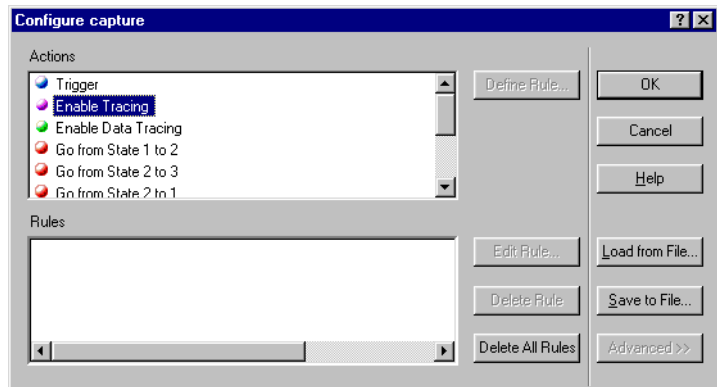

Figure 8-13 Configure capture dialog box
1. Set the tracing conditions by selecting **Configure Capture** from the **Trace** menu. The **Configure capture** dialog box is shown in Figure 8-13 on page 8-18.